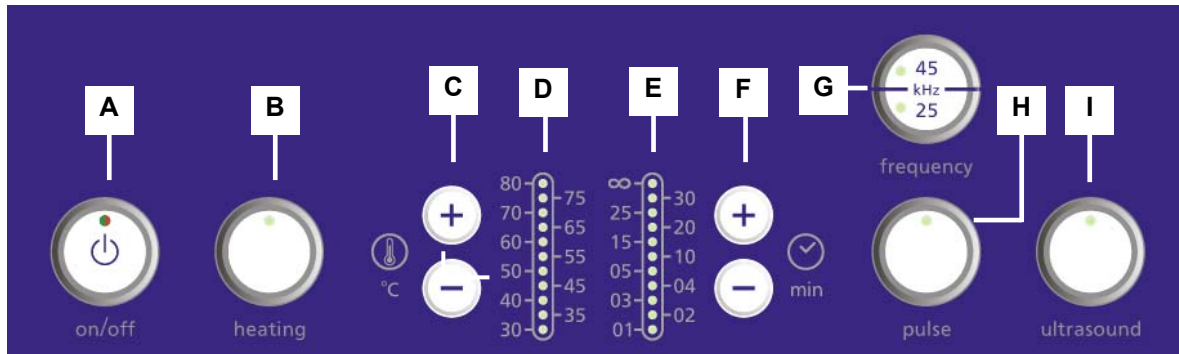

Fig. 4.10 Operating panel
1. Press the key *on/off* (Fig. 4.10.A), the green LED in the key is lighted.
2. Press the key *heating* (Fig. 4.10.B), the green LED in the key is lighted.
3. Set the required cleaning temperature by pressing the +/- keys (Fig. 4.10.C), the LED indicating the set temperature is lighted. The heating process is started and the actual temperature is indicated by the flashing LED (Fig. 4.10.D).
1. Activate the ultrasound at the key *ultrasound* (Fig. 4.10.I). The green LED in the key is lighted.
2. Set the required frequency to 45 kHz at the selector key *frequency* (Fig. 4.10.G). The green LED in the key is lighted.
3. Press the key *pulse* (Fig. 4.10.H). The green LED in the key is lighted.
The ultrasonic frequency is set by means of the selector key „*frequency*“. (Fig. 4.10.G.). The following two frequencies are available:
Press both keys *ultrasound* and *pulse* (Fig. 4.10.H). The green LED in the key indicates the operation in *pulse* mode. *pulse* can be switched on or off as required during operation.